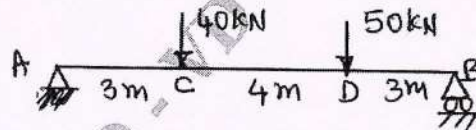

Fig. Q4 (c)
c. Find deflection at the load points C and D for the simply supported beam shown in Fig. Q4 (c) using Macaulay's method. Take $EI = 12000 \text{ kN-m}^2$ (10 Marks)